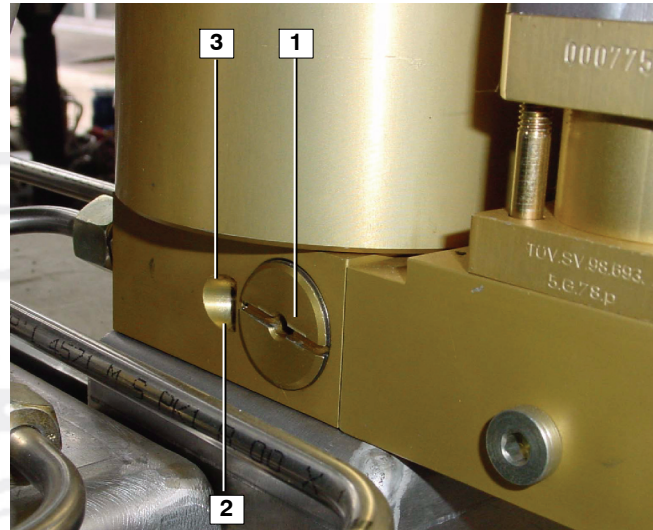

Fig. 3 Pressure maintaining valve
A pressure maintaining valve is integrated in the P31 filter base (Fig. 3).
The pressure maintaining valve (Fig. 3) is adjusted at the factory to the required pressure and normally does not require regular maintenance or readjustment. In case of readjustment becoming necessary, loosen jam nut (2) and set screw (3). Adjust screw (1) to the required pressure using a suitable screw-driver.